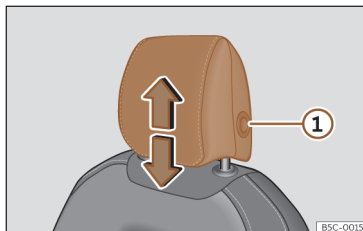
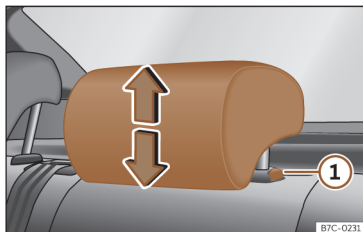

Fig. 103 Front seat: headrest adjustment.
Fig. 104 Rear headrest: headrest adjustment.
- Grab the sides of the headrests with both hands and push upwards to the desired position. To lower it, repeat the same action, pressing the ①»» Fig. 103 »» Fig. 104 button on the side.
- Press the side button»» **Fig. 103** ① and remove the headrest.